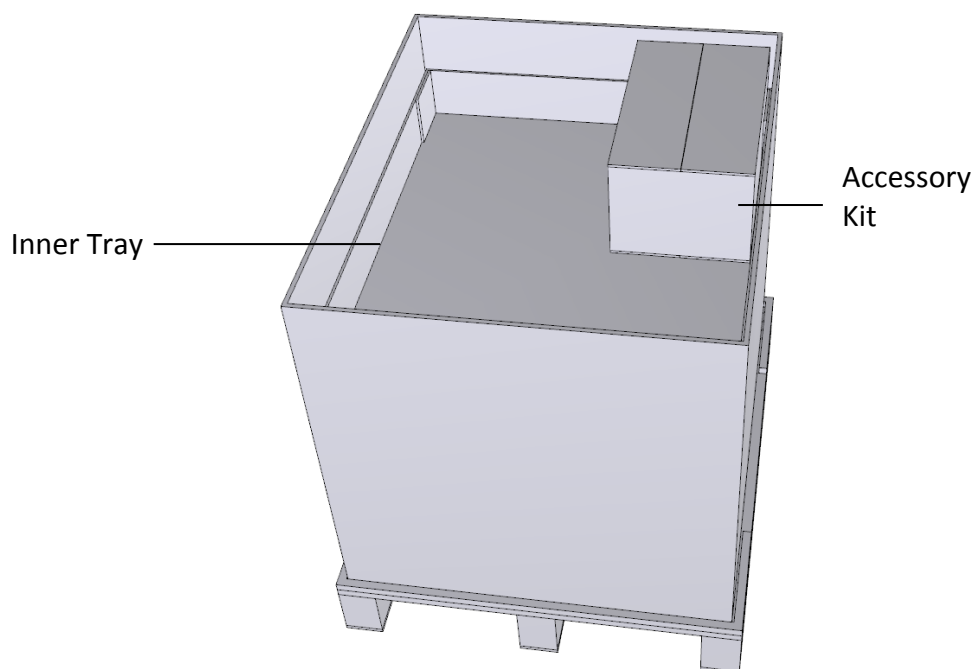

Figure 2: Shipping Container
- 2) Remove the accessory kit from the shipping container as shown in Figure 2.